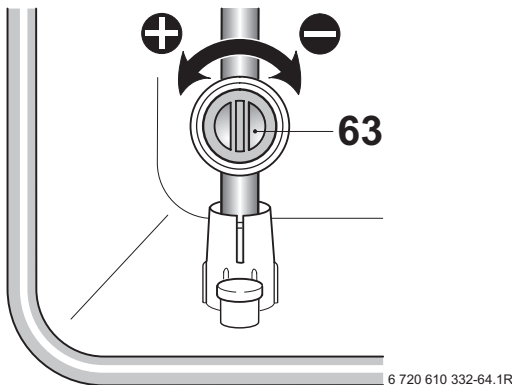

Fig. 43
- ▶ Adjust the gas flow restrictor (63) to obtain the CO₂ level given in Table 13. Refer to fig. 43.